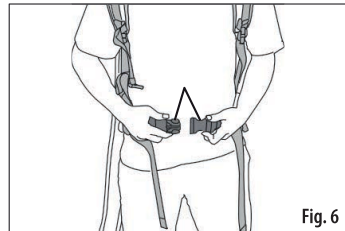

Fig. 6
2. Snap the waist buckle on the belt strap and adjust its length so that the backpack battery is securely supported by your hips (Fig. 6 & 7).